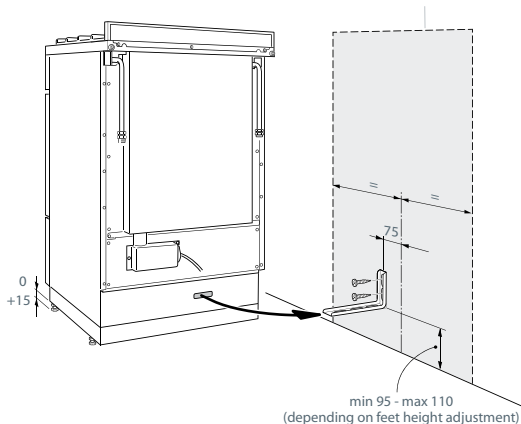

Fig. 5 Fitting the anti-tilt bracket
- 1 After you have located where the cooker is to be positioned, mark on the wall the place where the two screws of the anti-tilt bracket have to be fitted. Please follow the indications given in Fig.5.
- 4 Move the cooker to the wall and adjust the height of the anti-tilt bracket so that it can engage in the slot on the cooker's back, as shown in Fig.5.